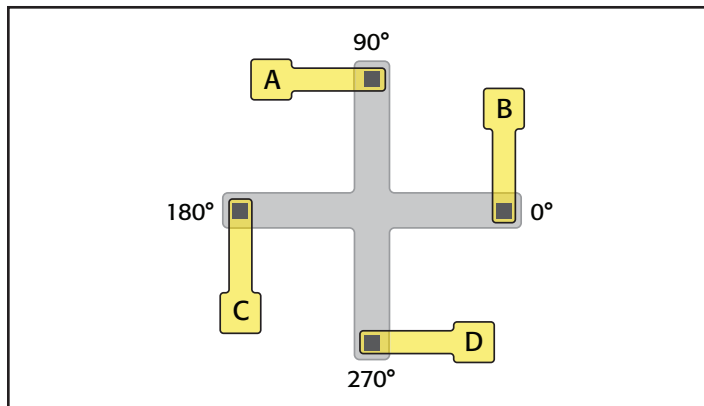

Figure 2: Greek cross
*Figure 2* shows one of the most widely used forms of a van der Pauw resistivity structure: the Greek cross. The Greek cross structure yields accurate resistivity data and is easy to design and lay out.